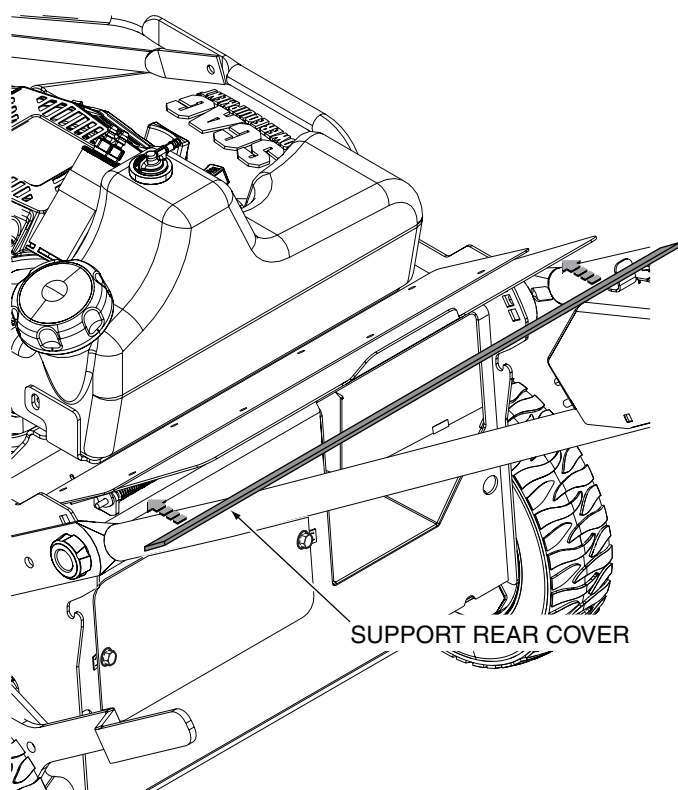

Figure 6-1. Lift and Support Rear Cover
4. Using a piece of scrap material, broom handle or other object wider than the handle bars, lift and support the rear cover to gain access to the rear of the mower. See Figure 6-1.